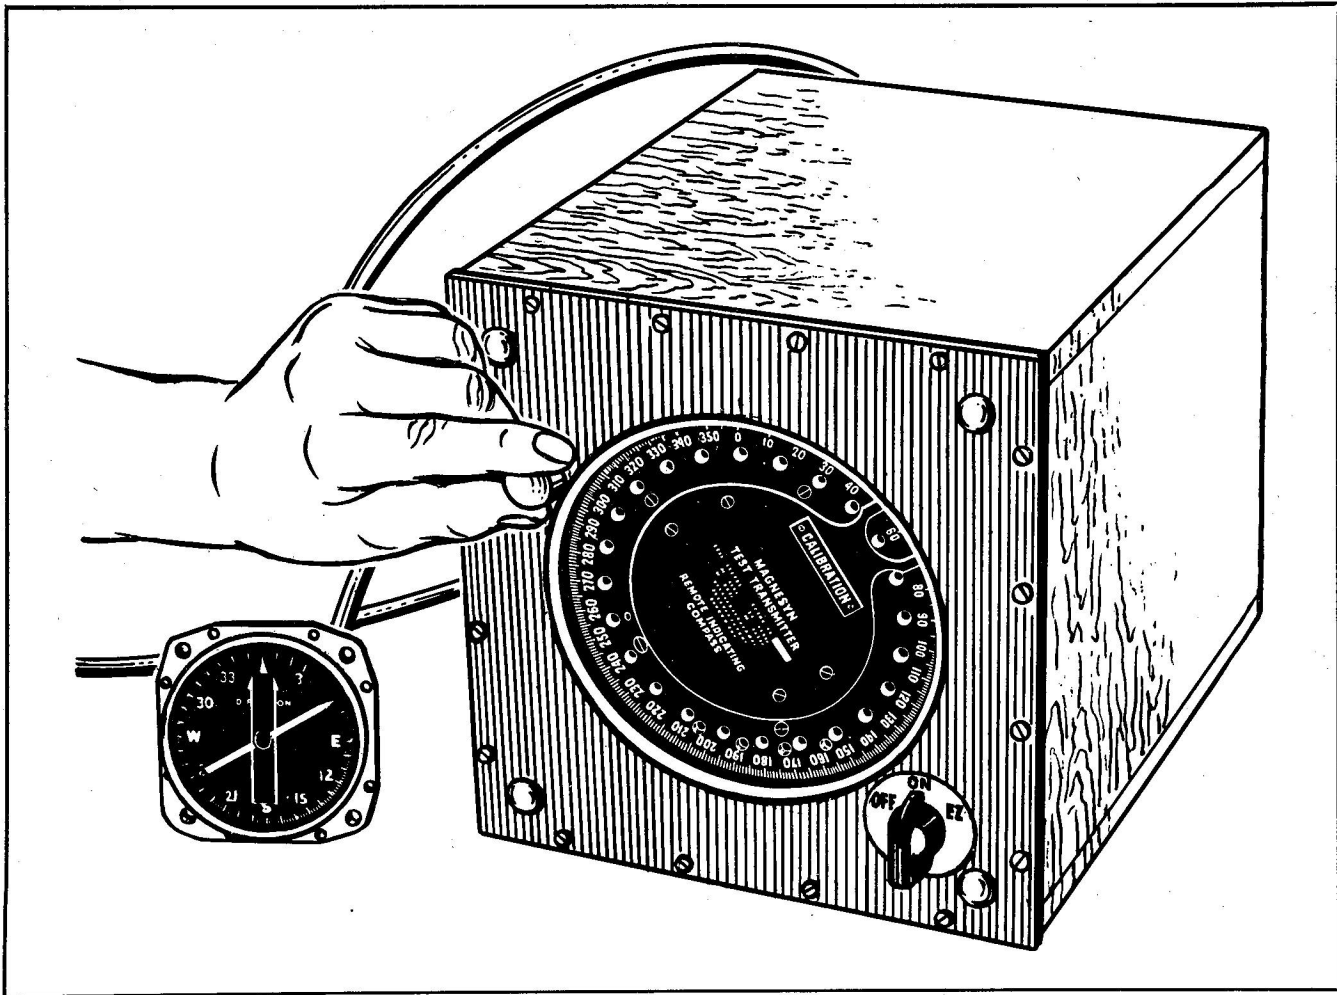

Figure 25U—Checking Scale Error of Indicator
1. Connect the indicator to a Magnesyn test transmitter, Pioneer type 13323-2, with the test cable, QD-70696-2. Make up the cable according to figure 25T. Connect the test transmitter to a source of 26-volt, 400-cycle power. Use the Varo-Power, 13601-1, if available. Power must be applied to the indicator across the "A" and "B" terminals of the receptacle. (See figure 25U.)